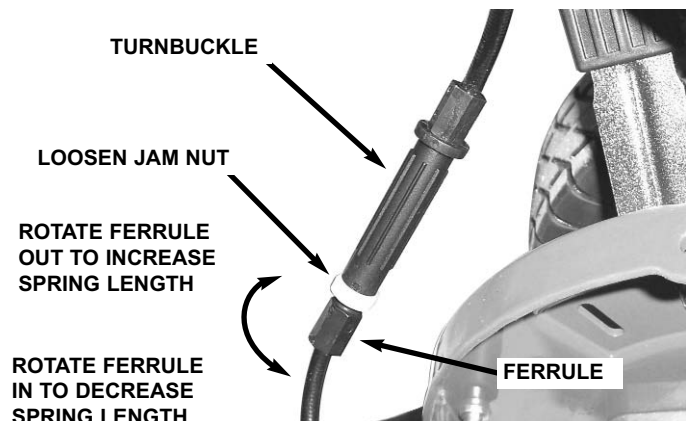

FIGURE 4.5b
- b. To increase extended spring length, loosen jam nut, and rotate ferrule below adjustment turnbuckle, located on lower end of wheel drive control cable, 1/2 turn out from turnbuckle. Tighten jam nut. See Figure 4.5b.
- c. To decrease extended spring length, loosen jam nut, and rotate ferrule 1/2 turn in toward turnbuckle. Tighten jam nut. See Figure 4.5b.